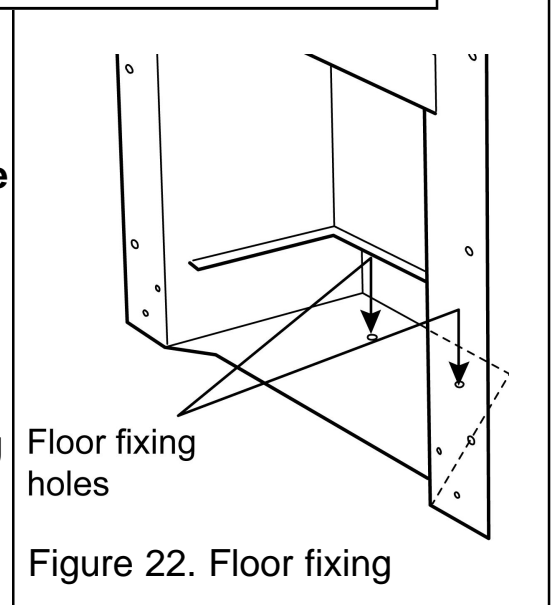

Figure 22. Floor fixing
8. Drill a hole into the fireplace floor through each of the two holes in the base of the convection box using a using a suitably sized masonry drill bit for the wall plugs supplied (See figure 22).